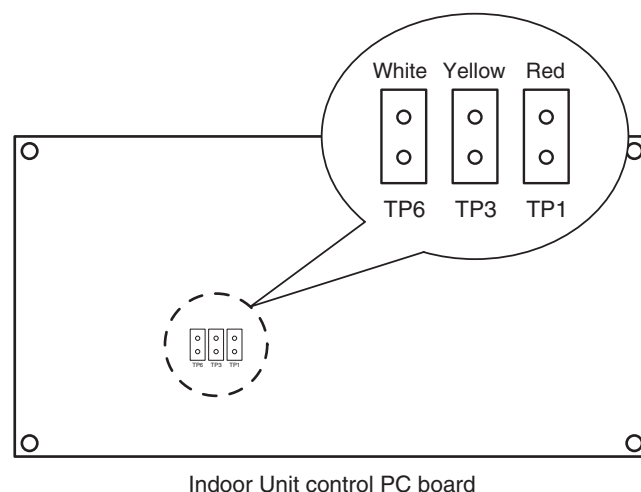

Fig. 2-122
2. Open the lid of electrical equipment box and check where the short-circuit pin on the indoor unit control PC board is located (Fig. 2-122)